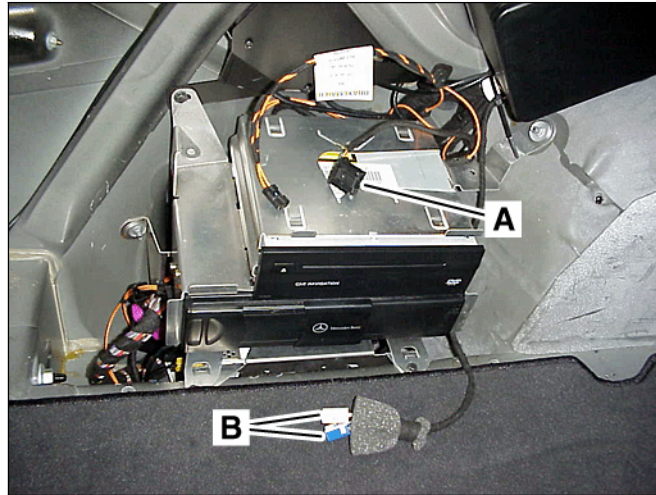

Figure 10
- SDAR power supply cable (A, Figure 10)
- SDAR antenna leads (B, Figure 10)
7. Remove the foam sleeve from the power supply connector (A, Figure 10).
8. Fold back the foam sleeves to expose the antenna lead connectors (B, Figure 10).